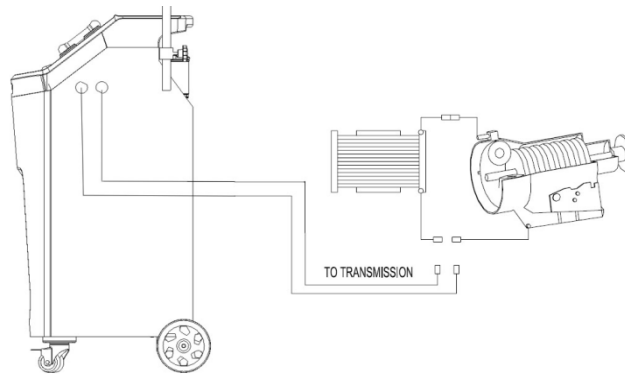

Fig. 6
- 1.6 Connect the two oil pipes indicated with "TO TRANSMISSION" on the GD-505 to the both ends of the detached oil pipe of the automatic transmission (no need to consider the flow directions, the system will automatically recognize the inlet and outlet), as shown in Fig. 6.